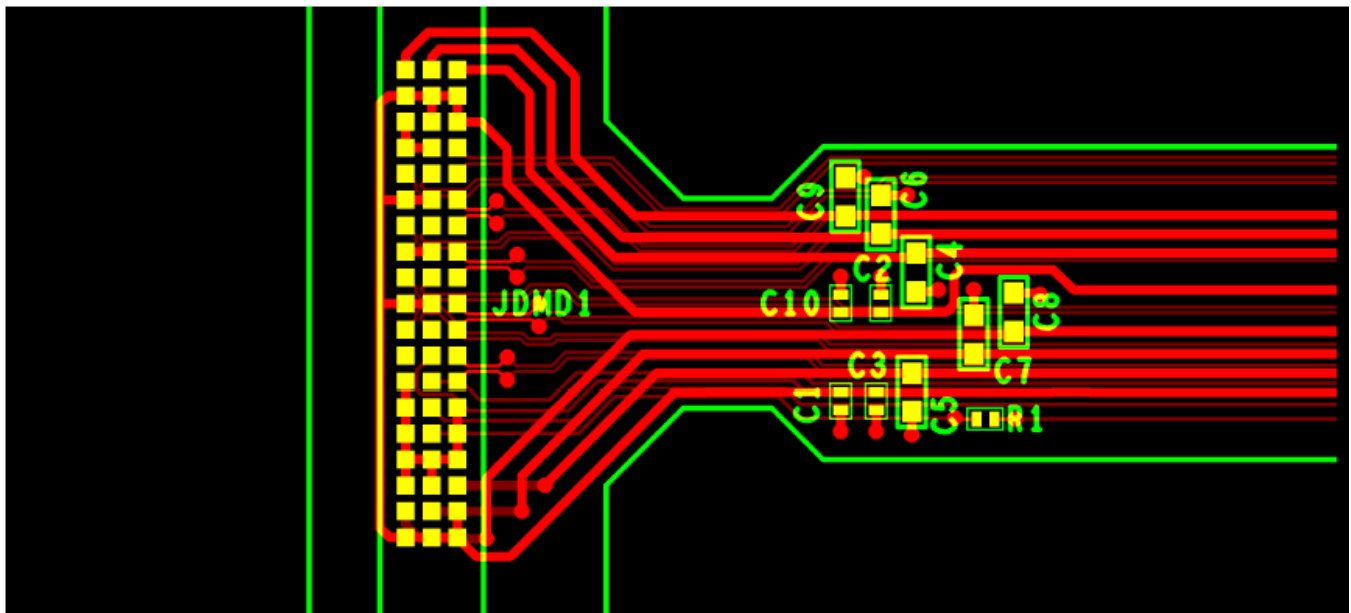

Figure 25. Power Supply Connections
- Minimize vias, layer changes, and turns for the HS bus signals. Refer Figure 25.
- Minimum of two 100-nF decoupling capacitor close to VBIAS. Capacitor C6 and C7 in Figure 25.
- Minimum of two 100-nF decoupling capacitor close to VRST. Capacitor C9 and C8 in Figure 25.
- Minimum of two 220-nF decoupling capacitor close to VOFS. Capacitor C5 and C4 in Figure 25.
- Minimum of four 100-nF decoupling capacitor close to VDDI and VDD. Capacitor C1, C2, C3 and C10 in Figure 25.